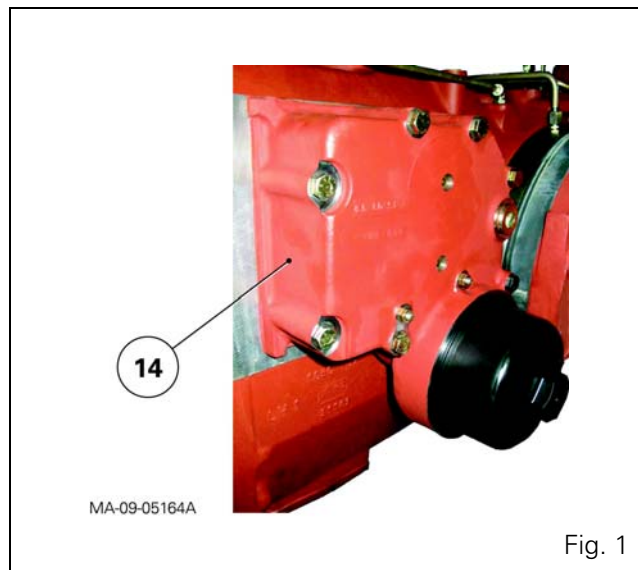

Fig. 1
The left-hand cover plate (14) is fitted on the centre housing (Fig. 1).